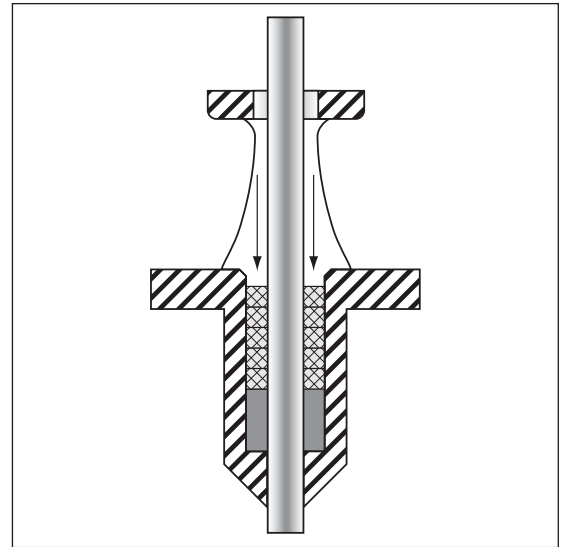

Figure 3
- 8 Install bushing in bottom of stuffing box. If no bushing is required proceed with packing installation (Figure 3).